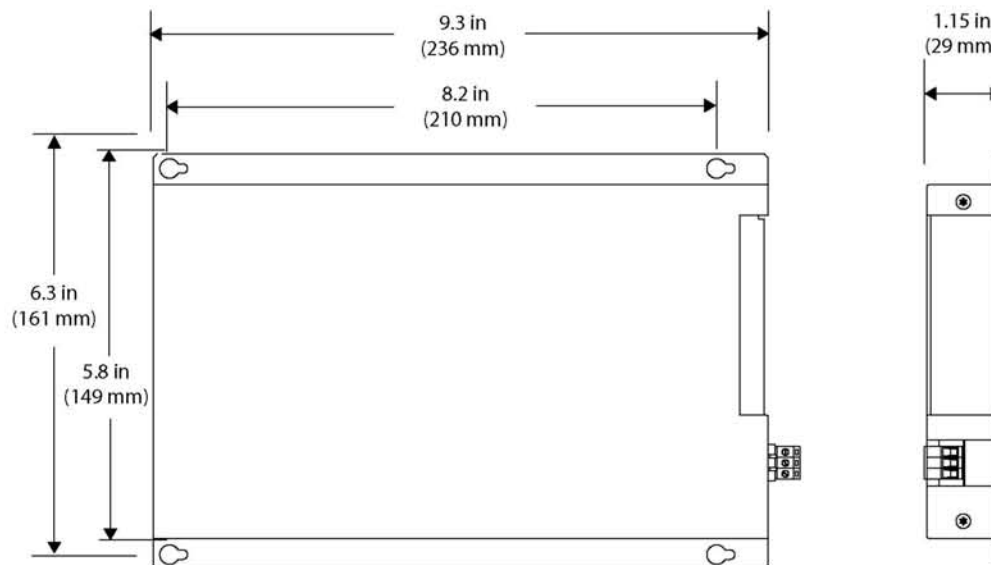

Figure 7. 501R Rack Card Enclosure Mounting Data
- 3) Determine where the module will be installed, and ensure that there is adequate space for making the various cable connections and for reading the diagnostic LEDs. See Figure 7.